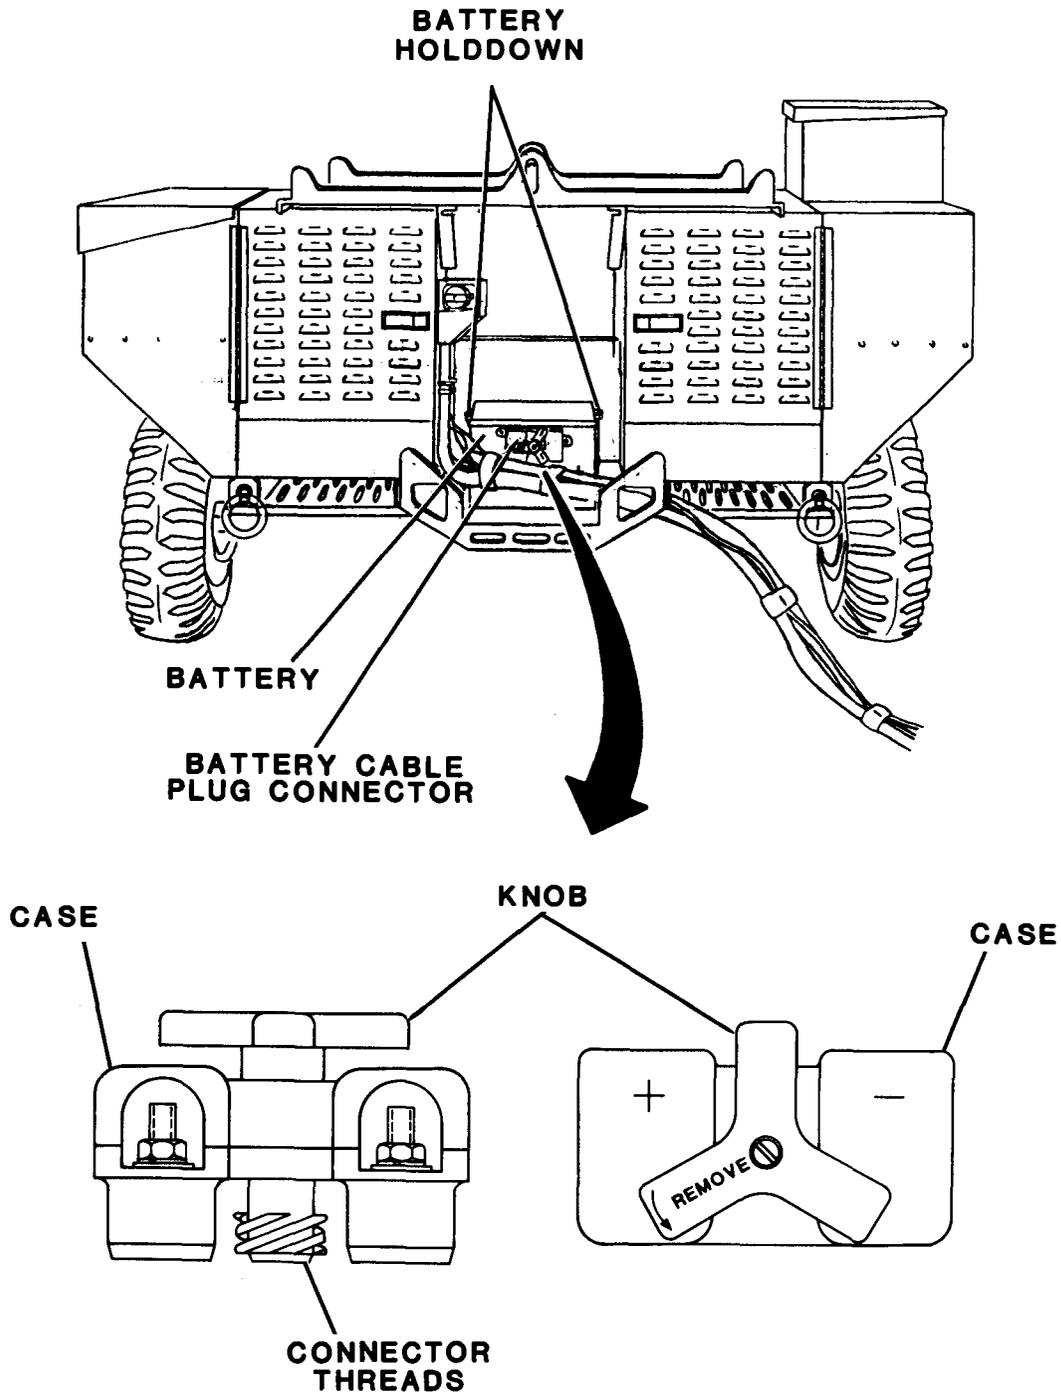

Figure 3-6. Battery and Battery Cable Inspection
a. Battery Cable Assembly. See figure 3-6.
- (1) Visually inspect length of battery cable for cracks, abrasions and cuts.
- (2) Check battery cable connector for damaged knob, cracks in case, damaged threads, and loose connections.
- (3) Ensure that female contacts are securely in place and undamaged.